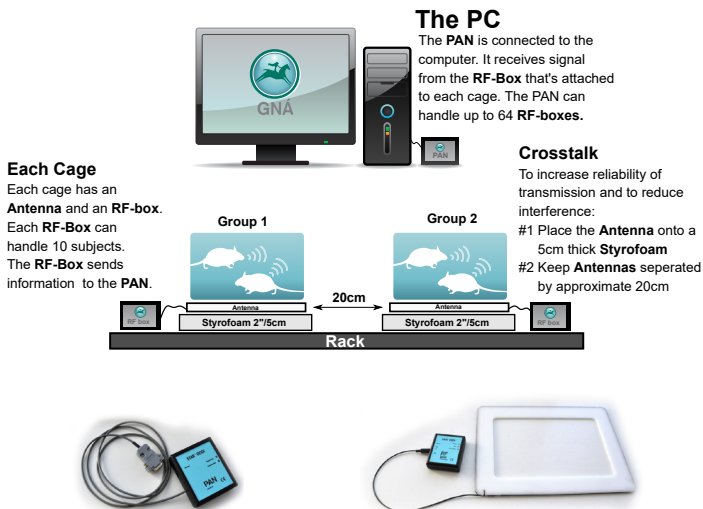

Figure 2.1 An Overview image of the Star-Oddi telemetry system
- A 2 inch/5cm styrofoam or non metallic object placed between the rack and the antenna as seen in *Figure 2.1* is usually sufficient to couple out any noise affecting the system.
- Having two antennas too close together can also reduce the chances of a successful transmission and we recommend a 20cm distance between two antennas as seen in *Figure 2.1*.